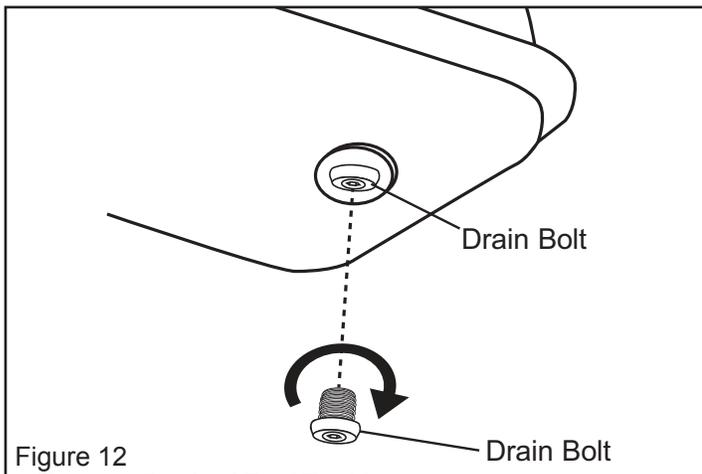

Figure 12
4. To replace the drain bolt; push the drain head fully into the drain hole and screw clockwise. (See Figure 12)